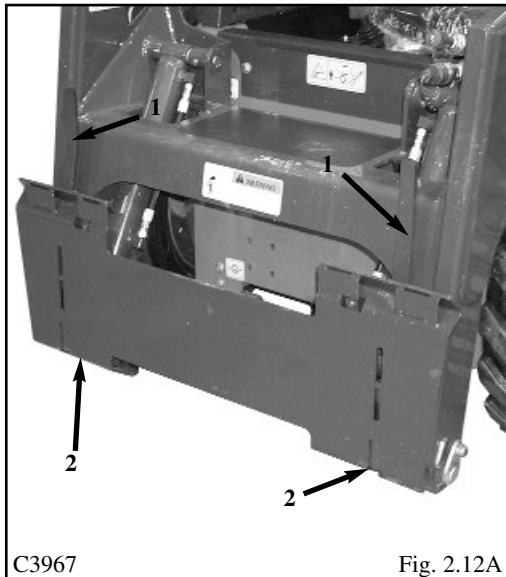
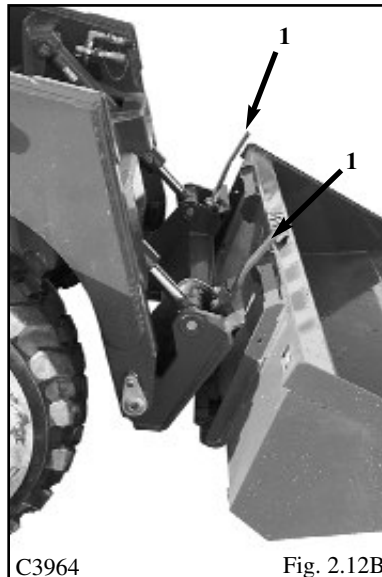
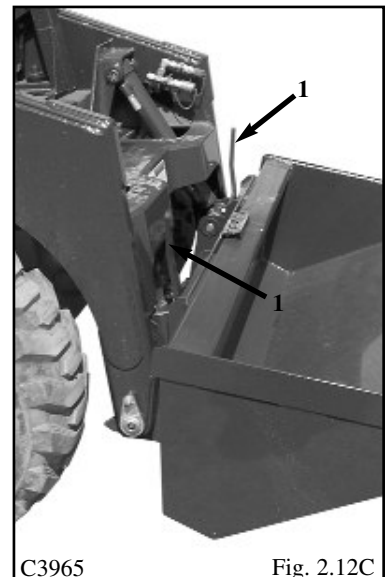

Fig. 2.12A
Fig. 2.12B
Fig. 2.12C
To operate, lift the locking lever (1) up to completely retract the locking pins (2) (Fig. 2.12A). Tilt the quick - tach frame forward (Fig. 2.12B) with the bucket tilt cylinders and drive into the attachment. Retract the bucket tilt cylinders (Fig. 2.12C) which will line up the bottom of the attachment with the quick - tach lock pins. Shut off the engine.